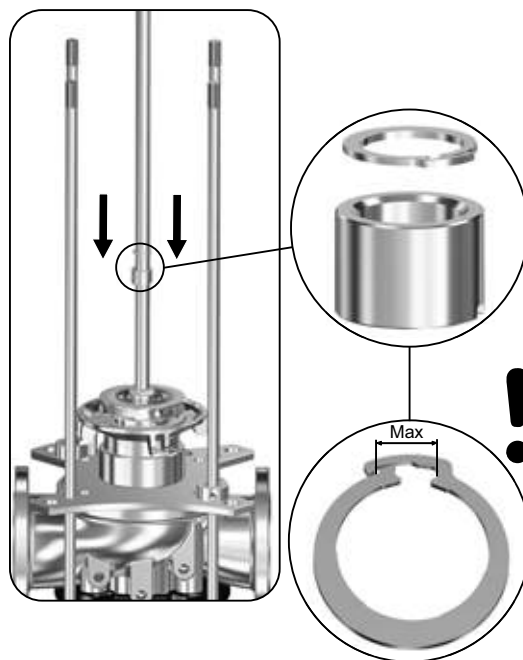

Fig. 28 Maximum permissible opening of lock ring (47g)
5. Fit a split-cone nut (48) to the impeller.
6. Hold the impeller (49 or 49a) with a hook spanner. Tighten the split-cone nut (48) using the service tools C, O and P. See section 7.1 *Torques*.
8. **For pumps with Ø28 or Ø36 pump shaft:** Note that for pumps with Ø28 or Ø36 pump shaft, you must also fit the lock ring (47g). See fig. 28. Make sure that the lock ring (47g) tightens firmly around the pump shaft and holds the bearing (47a) fixed on the pump shaft.
Do not open the lock ring (47g) further than the restriction of the integrated locking mechanism. See fig. 28.